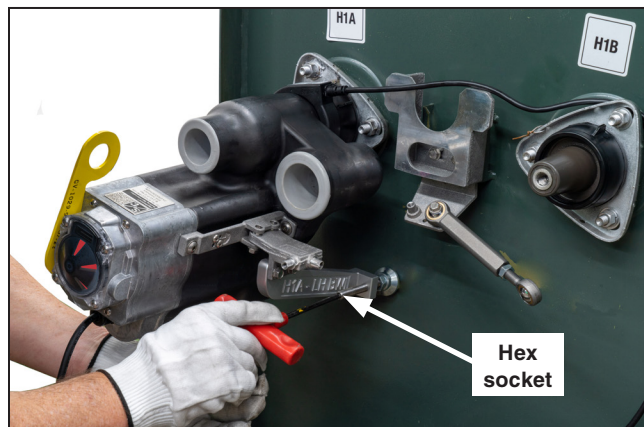

Figure 21. The hex socket at the top of the H1A bushing well interrupter swivel foot.
STEP 1. The hex socket at the top of the swivel foot is keyed for an Allen wrench. Tighten the swivel foot until it is “hand tight” against the transformer wall. See Figure 21.